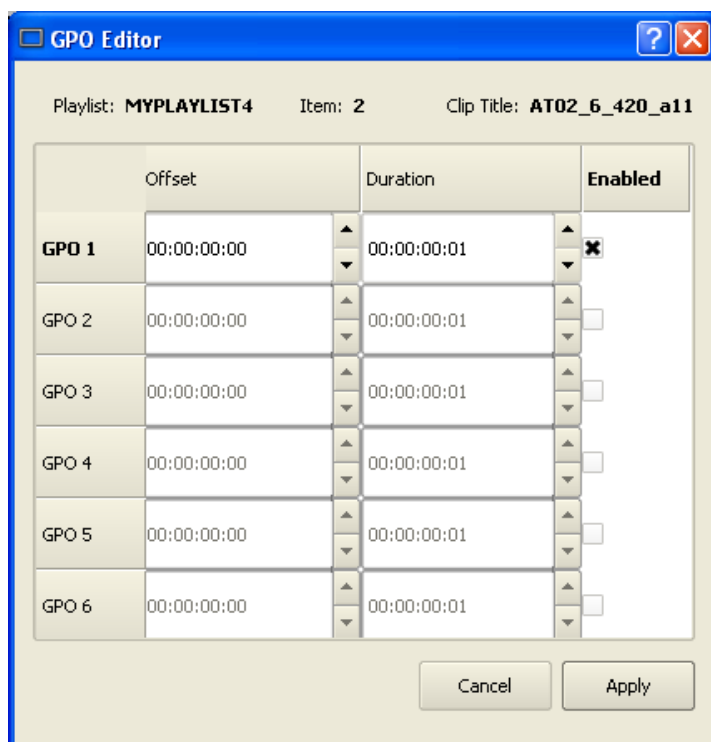

Figure 23 - GPO Editor
- C. Place the cursor over a Clip in a Playlist. Right click on the clip. Select **EDIT GPO**. The GPO Editor (Figure 23) appears.